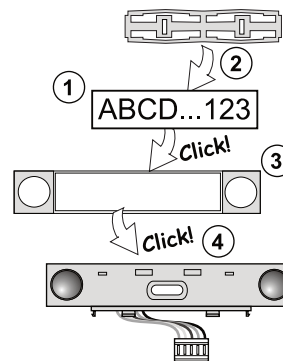

Figure 3: Insertion of a label into a control segment
7. Connect the segment wires to the internal connector of the keypad (7).
- c. Press the backlit activation button (3) the module is thus enrolled and the yellow LED indicator goes off.
10. When you have completed the installation, insert descriptive labels onto the segment transparent covers and close them, see figure 3. Label printing is a part of the F-Link software (**Devices** window, at the module position – **Internal settings**).